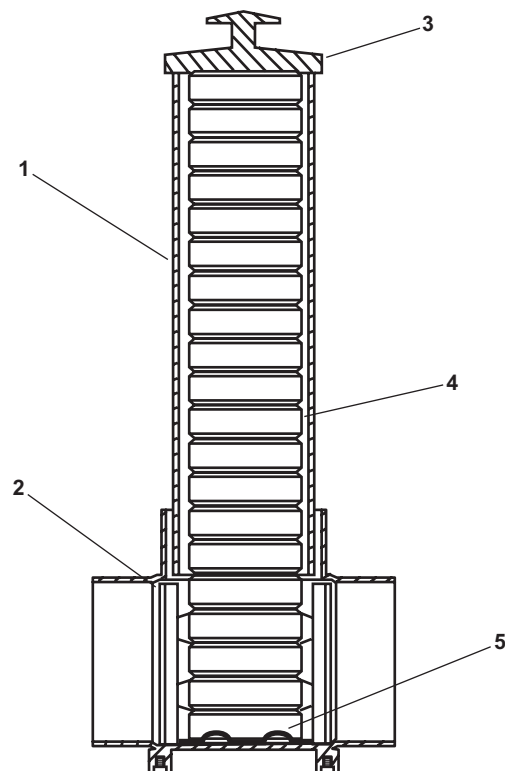

Figure 2. Chlorinator Body
1. Remove the chlorinator feed tube (figure 2, item 1) from the chlorinator body (figure 2, item 2) by twisting slightly and pulling the chlorinator feed tube straight up.
2. Remove the chlorinator feed tube cover (figure 2, item 3) from the chlorinator feed tube (figure 2, item 1).
3. Remove any remaining chlorine tablets (figure 2, item 4) from the chlorinator feed tube (figure 2, item 1).
4. Rinse the feed tube (figure 2, item 1) with water and allow it to air dry before proceeding.
1. Place the chlorinator feed tube (figure 2, item 1) into the chlorinator body (figure 2, item 2).
2. Lock the chlorinator feed tube (figure 2, item 1) into the positioning ribs (figure 2, item 5) by twisting the chlorinator feed tube slightly.
3. Insert the chlorine tablets (figure 2, item 4) one at a time into the chlorinator feed tube (figure 2, item 1) ensuring that the chlorine tablets lie flat on top of one another.
4. Install the chlorinator feed tube cover (figure 2, item 3) on the chlorinator feed tube (figure 2, item 1).
1. Remove the chlorinator feed tube cover (figure 2, item 3) from the chlorinator feed tube (figure 2, item 1).
2. Insert the chlorine tablets (figure 2, item 4) one at a time into the chlorinator feed tube (figure 2, item 1) ensuring that the chlorine tablets lie flat on top of one another.
3. Install the chlorinator feed tube cover (figure 2, item 3) on the chlorinator feed tube (figure 2, item 1).